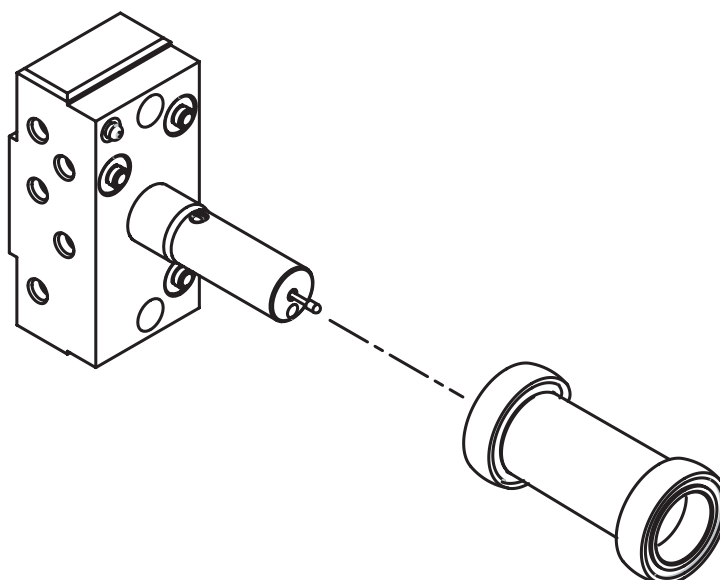

Figure 68. Left endcap and inner electrode
4. Remove the inner electrode from the left endcap, as Figure 68 shows.
2. Reinstall the inner electrode on the left endcap, as Figure 68 on page 92 shows.